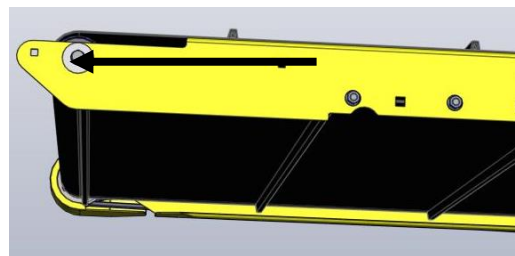

Figure 63
6. On the front side remove the retaining bolt the holds the roller in place. Figure 63 That will allow you to remove the roller. This figure shows Model Year 2015 and above. Model Year 2014 and below is slightly different.